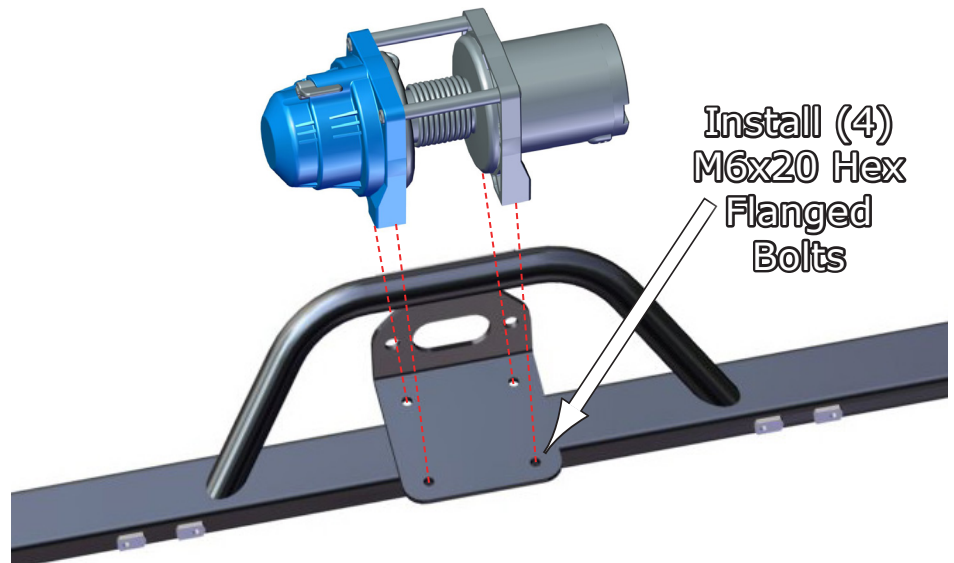

Fig.2
2. Next is to mount the Winch Motor onto the Center Mount Bar using the **M6x20 Hex Flanged** bolts provided in the Winch Kit. Tighten securely. See **Fig.2**.